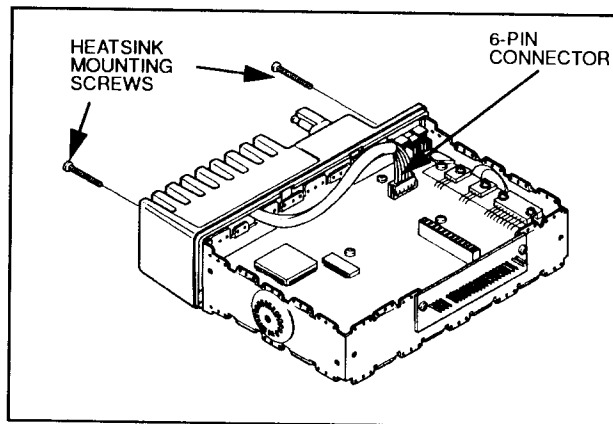

Figure 4.
- (2) Disconnect the 6-pin connector from the logic board (figure 4).
- (3) Remove the heatsink mounting screws (figure 4). Pull heatsink off of chassis while carefully feeding the transmit and receive coax cables through their respective holes in the chassis.